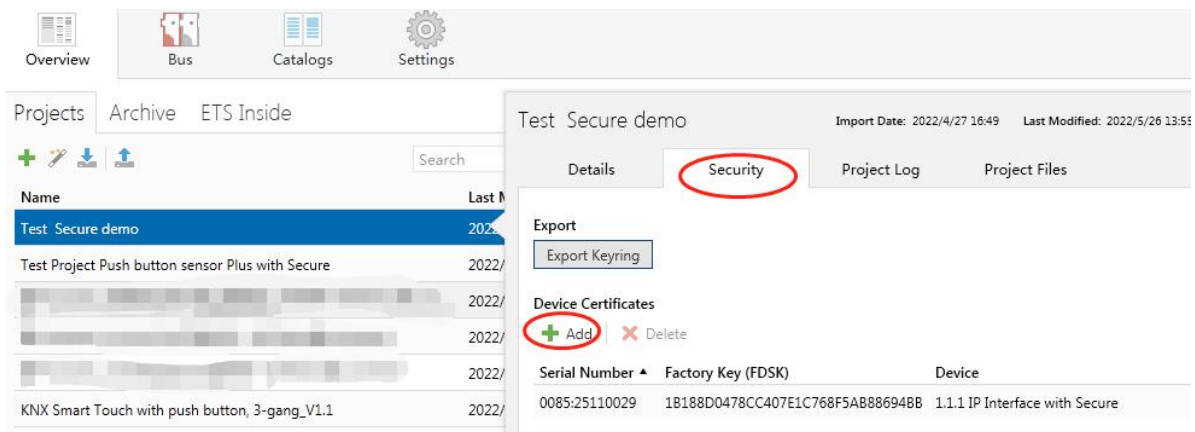

Fig. 4.3.2 Add Device Certificate in overview
- ✧ Alternatively, the certificates of all Secure devices can be entered in the ETS beforehand. This is done on the "Security" tab on the project overview page, as shown in Figure 4.3.2 below.